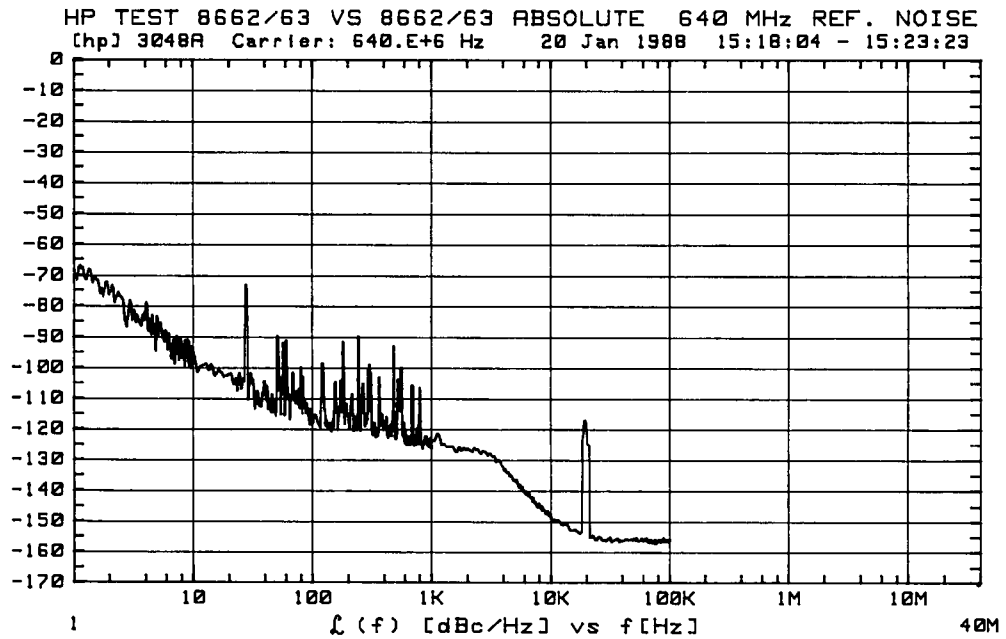

Figure B-2. Typical Spectral Purity Tests Results
9. Press the **Proceed** softkey. The measurement should proceed automatically. The measured noise should be similar to that shown in Figure B-2 and should be within the limits given in the following table.